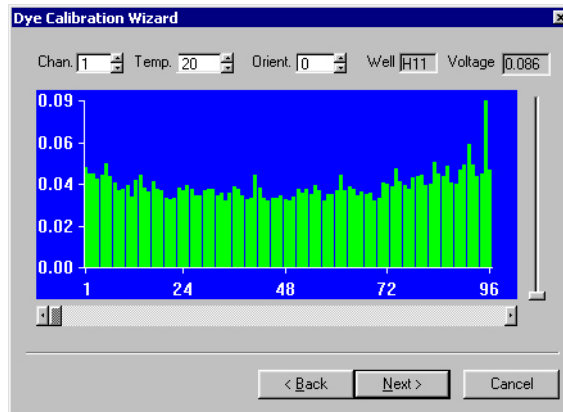

Figure 10-4. Fluorescence data for empty plate
11. After the empty plate has been scanned, you will be able to view the acquired data and check it for anomalies that may indicate a problem with the plate (e.g., unusually high signal in certain wells). See Figure 10-4, below: